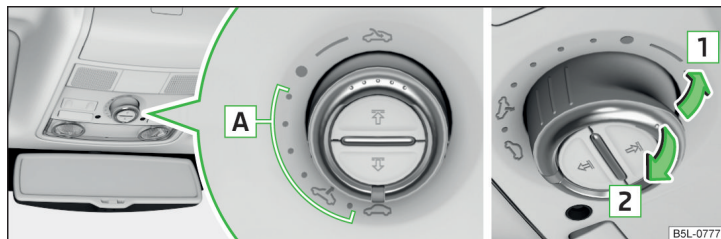

Fig. 45 Operation of the sliding/tilting roof
The sliding / tilting roof can be fully closed without a force limiter by pulling on the recess in the switch in the arrow direction **Z** » Fig. 45 on page 62 until the sliding / tilting roof is fully closed.
- › Set the switch to the position ☞ » Fig. 45 on page 62.